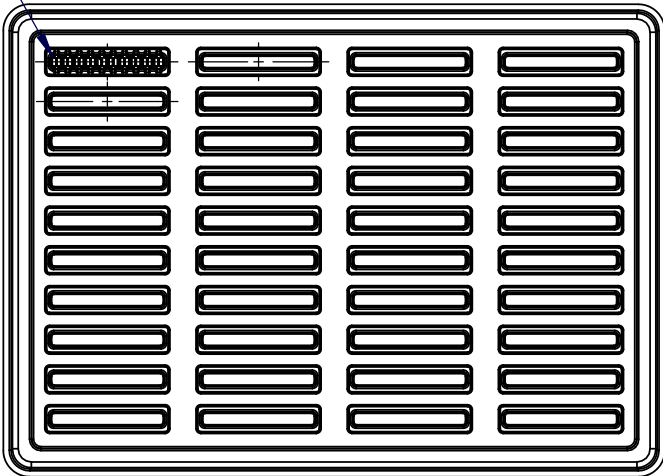

FIGURE 1
- 3. TRAY SIZE IS APPROXIMATELY 10 X 14 X 0.6 INCHES (254 X 355.6 X 15.2 mm), INCLUDING TOP COVER AND BOTTOM TRAY. ADAPTERS ARE ARRANGED AS SHOWN IN FIGURE 1.